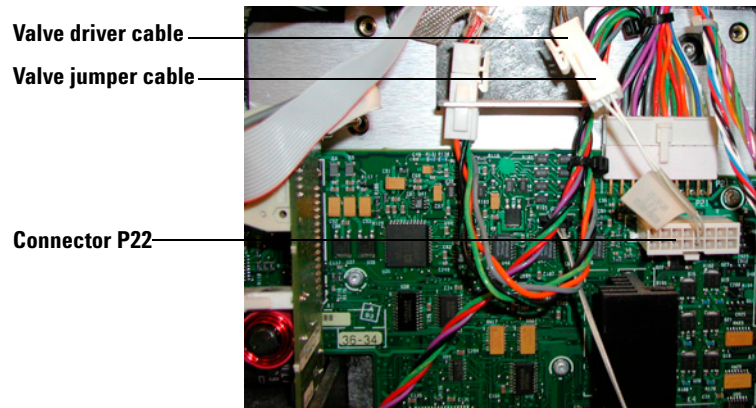
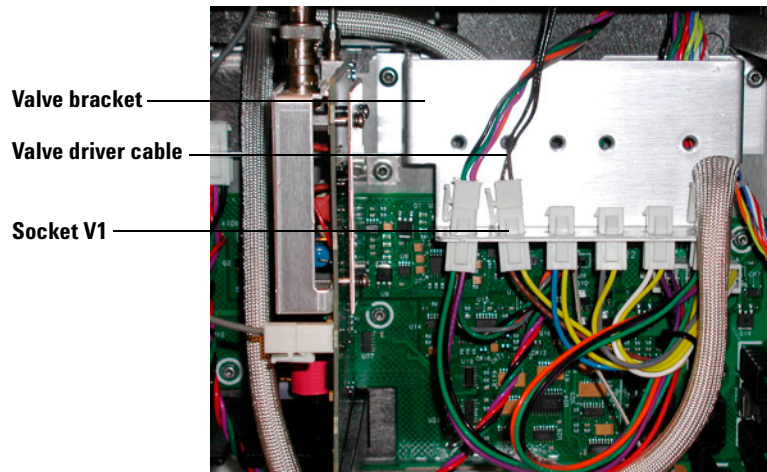

Figure 9 Main board without valve bracket
Figure 10 Main board with valve bracket
- 10 Remove the right side panel. The main board will resemble either Figure 9 (no valve bracket) or Figure 10 (valve bracket present), except that the valve cables will not be present.
- **No (Figure 9):** Connect the free end of the valve driver cable to the valve jumper cable. Connect the other end of the valve jumper cable to connector P22 at the top of the main board.
- **Yes (Figure 10):** Connect the free end of the valve driver cable to socket V1 on the valve bracket.